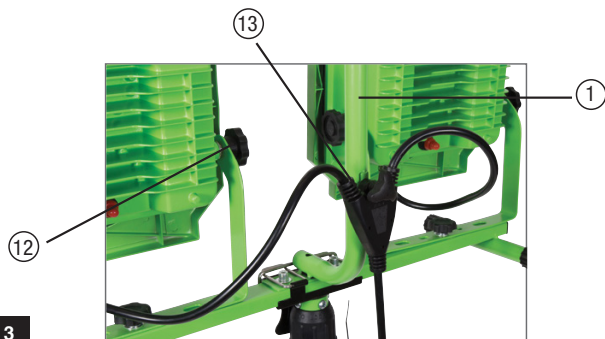

FIG 3
ATTACHING POWER CABLE TO CARRYING HANDLE (Fig. 3)
1. Use a twist knob (Part 12) to attach the power cable connector (Part 13) to the carrying handle as shown in Fig. 3.